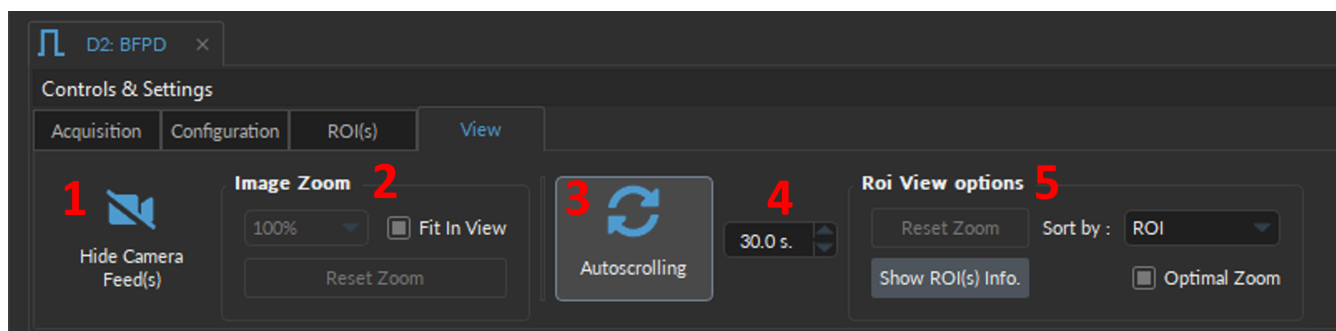

Figure 14.11: View Tab
The **View Tab** (Fig. 14.11) is used to modify the presentation of graphs in the **Acquisition view**.
1. The **Hide Camera Feed(s)** button (Fig. 14.11, 1) will remove the **Camera View** from the **Acquisition View**, automatically enlarging the **ROIs View**. Disabling the same button (renamed **Show Camera Feed(s)**) makes the **Camera View** reappear.
2. The **Image Zoom** (Fig. 14.11, 2) includes the following:
3. The **Autoscrolling** button (Fig. 14.11, 3), when selected, automatically sets the graphs to scroll as new data appears.
4. the **Autoscrolling range** (Fig. 14.11, 4) sets the graph zoom to the value of choice, specified in the text-box.
5. The **ROI View Options** (Fig. 14.11, 5) includes the following: